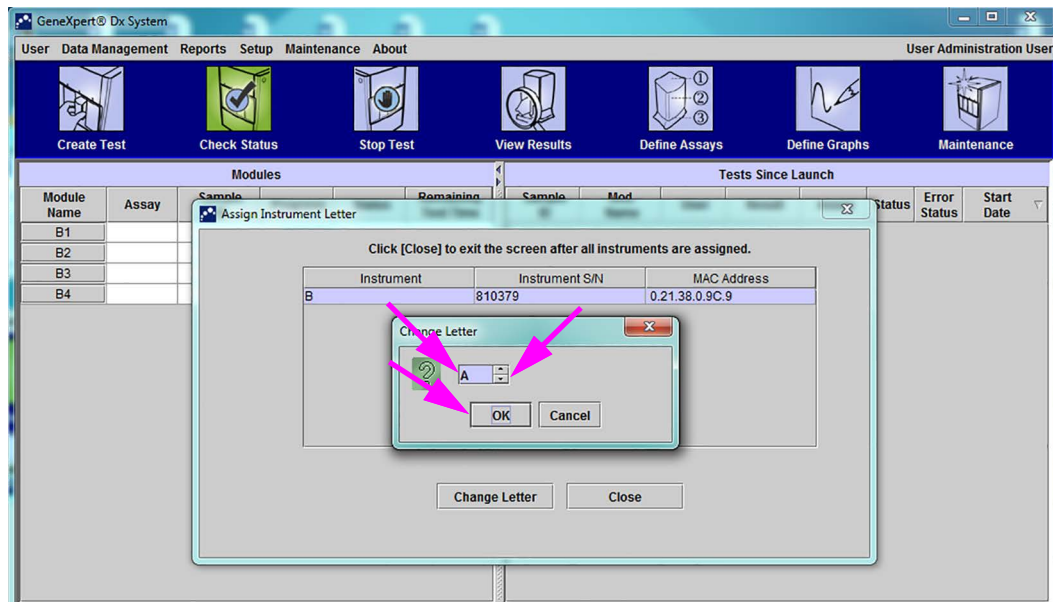

Figure 2-38. GeneXpert Dx System Window with Change Letter Dialog Box Overlay
- In the GeneXpert Dx System window, click **Setup** in the menu bar, and then select **Assign Instrument Letter**. The Assign Instrument Letter dialog box appears. See Figure 2-38. At the same time, the green LED indicators of four modules that comprise the selected quadrant will flash.